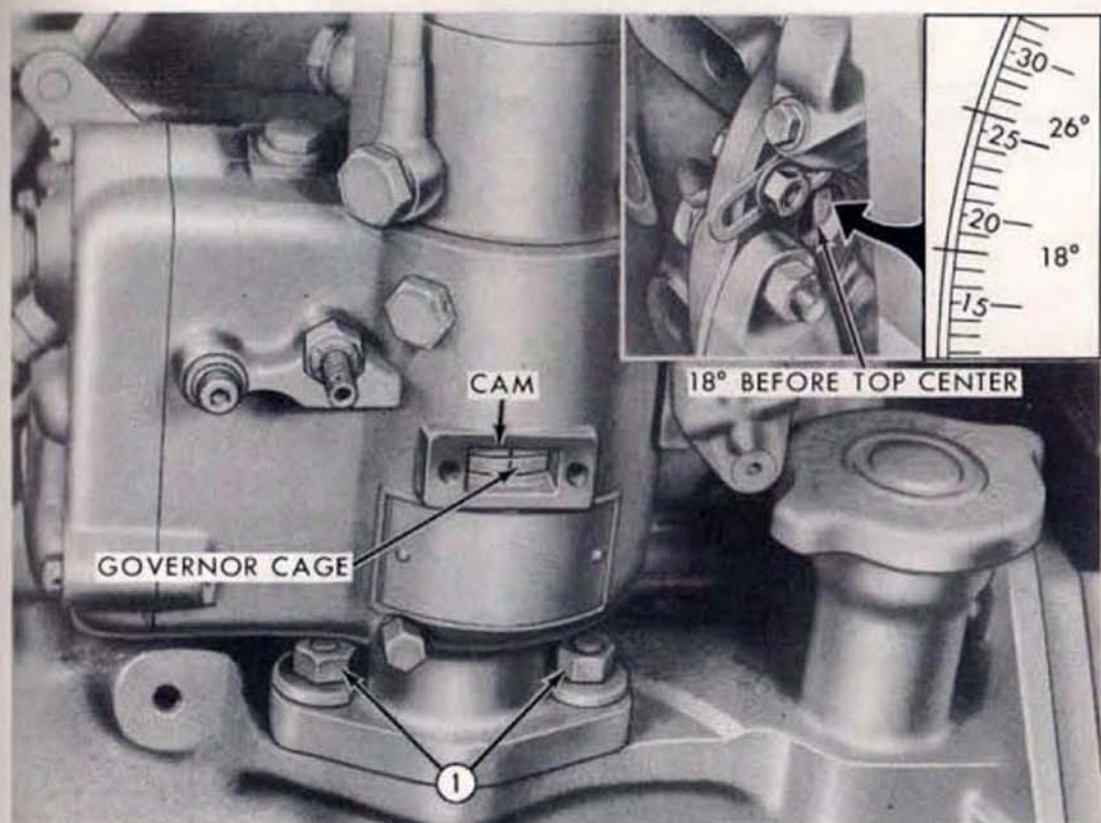

Figure 31
Pump to Engine Timing: Remove the timing window cover and gasket on the fuel injection pump and rotate the engine until the timing marks align as shown in Figure 31. Remove the engine flywheel timing cover and check the flywheel degree marking which should read 18° BTDC on all Series 801-D tractors and 26° BTDC on all 601-D tractors. If it does not, adjustment will have to be made.
the backlash is removed from the pump drive. Loosen the pump housing at (1), Figure 31, and rotate the pump assembly until the timing marks align. Re-tighten the pump assembly nuts. Check the timing by rotating the engine until the alignment marks again align. If the proper timing has not been obtained, repeat the process.